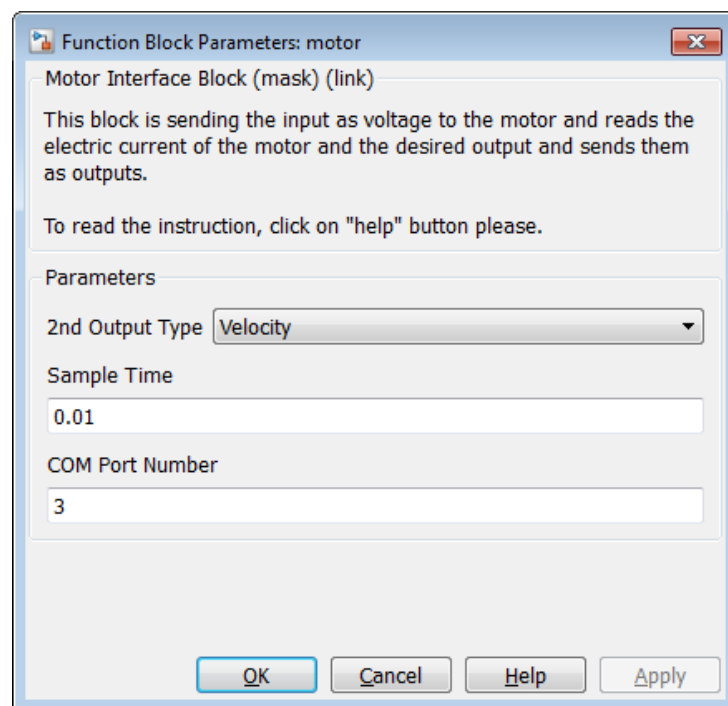

Figure 2: Function Block Parameters of the 'DC Motor'.
- By double-clicking on the block called 'Motor' a window should appear where you can change certain parameters concerning the DC motor (see Figure 2).